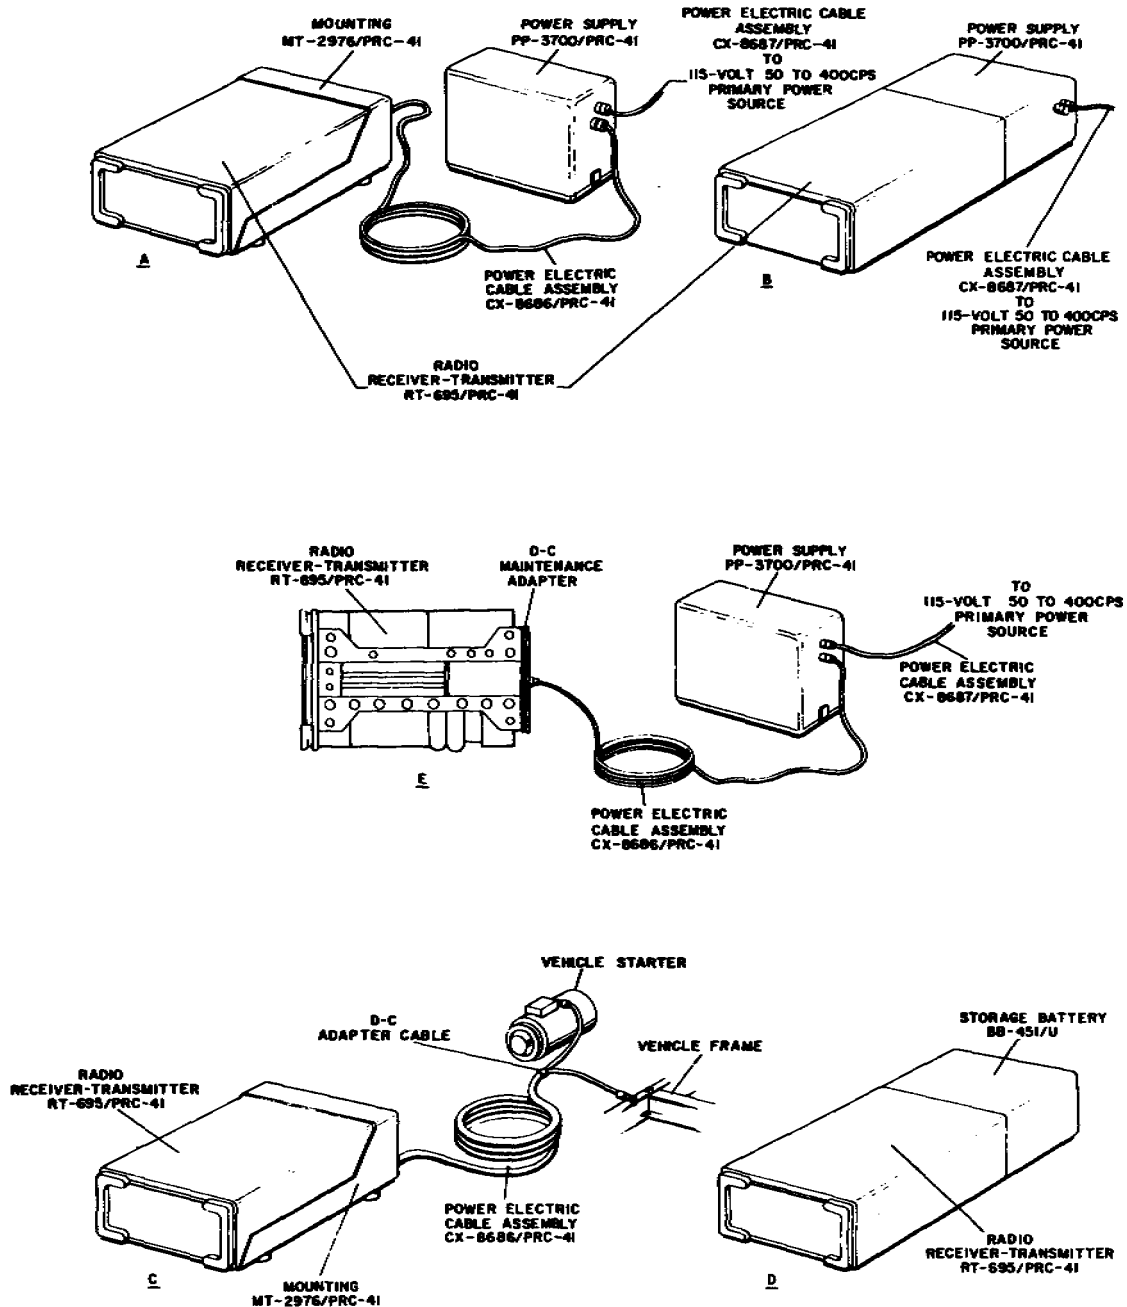
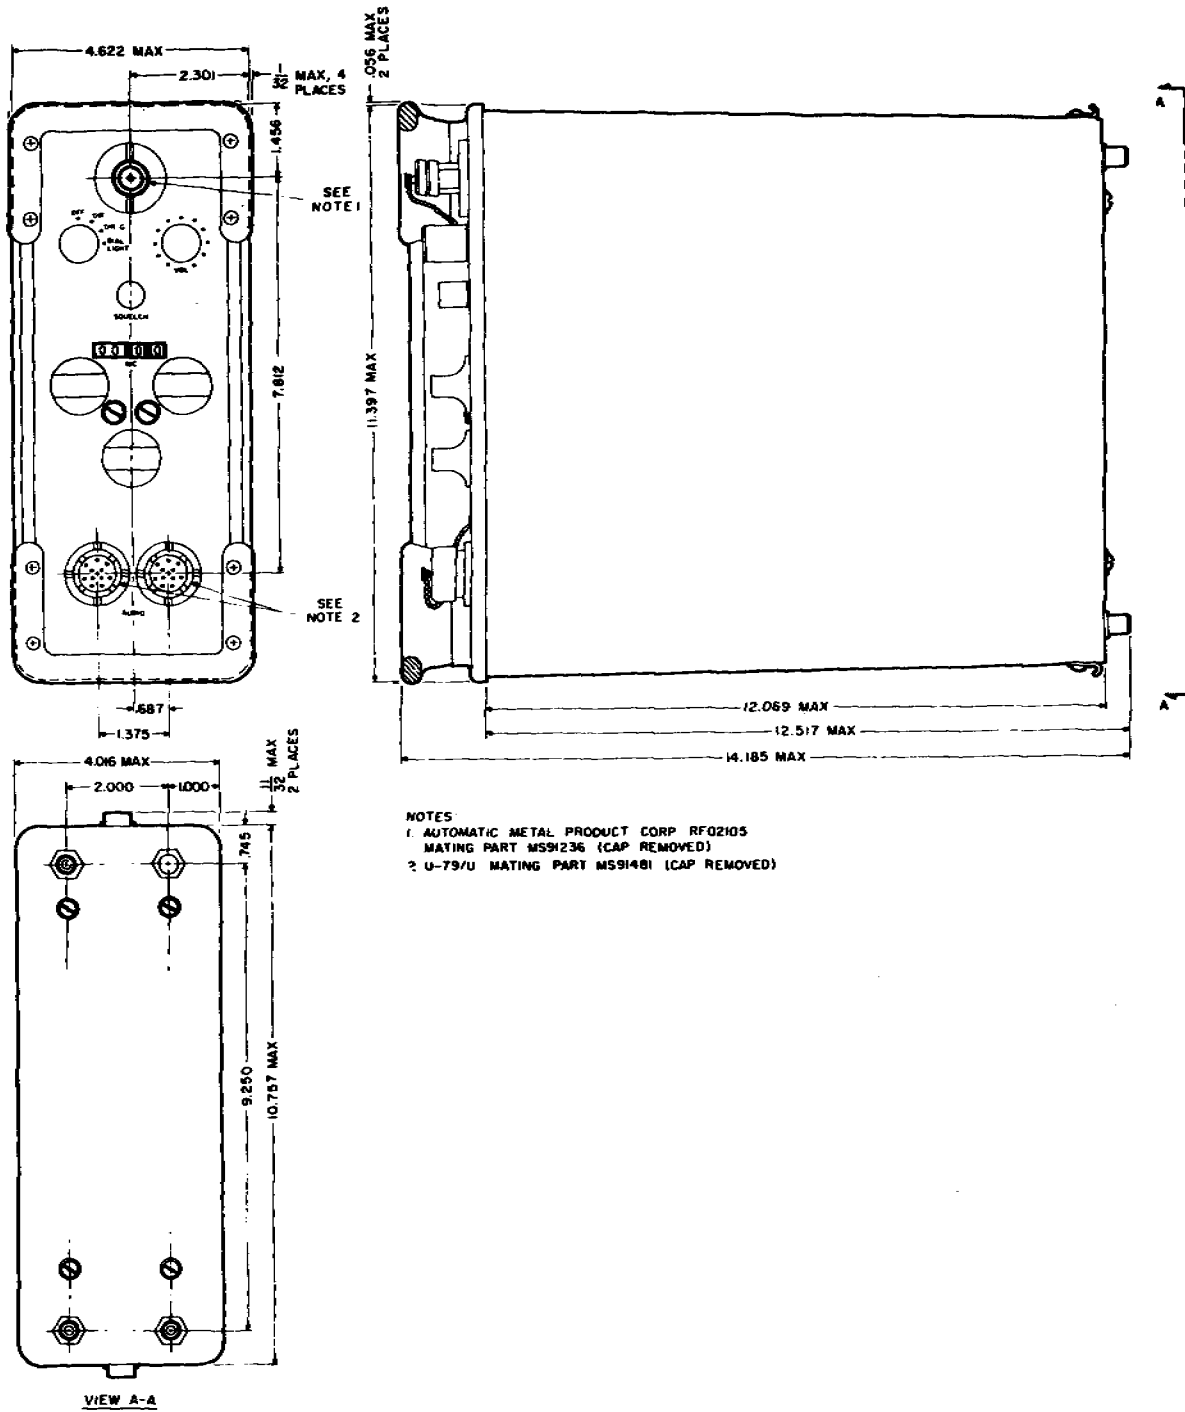
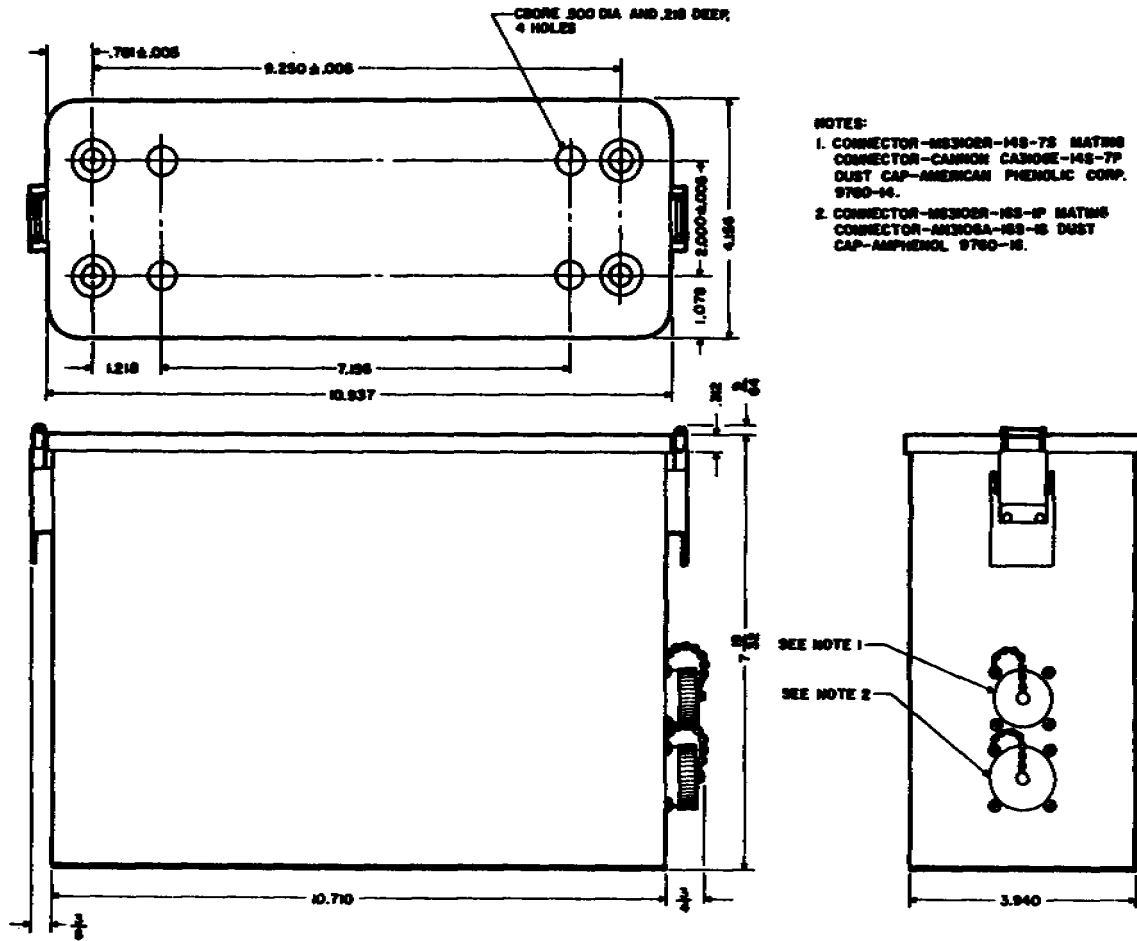

Figure 2-3. Source of Power Configurations of Radio Receiver-Transmitter RT-695/PRC-41
Figure 2-13. Radio Receiver-Transmitter RT-695/PRC-41, Outline and Mounting Dimensions
Figure 2-14. Power Supply PP-3700/PRC-41, Outline and Mounting Dimensions
a. POWER PROVISIONS. - Radio Receiver- RT-695/PRC-41 requires a nominal 26.5-volt d-c primary source. This supply may be provided by use of Power Supply PP-3700/PRC-41, Storage Battery BB-451/U, or by an aircraft or vehicular battery supply. Figure 2-3 illustrates the various configurations which may be used to supply the required d-c primary power to Radio Receiver- RT-695/PRC-41.
Primary Power for Radio Receiver-Transmitter RT-695/PRC-41 may be provided by a separately located power supply PP-3700/PRC-41. Refer to part A of figure 2-3. In this configuration, Power Electric Cable Assembly CX-8686/PRC-41 is used to connect the 26.5-volt d-c output from the PP-3700/PRC-41 to Mounting MT-2976/PRC-41 and to the RT-695/PRC-41, Power Electric Cable Assembly CX-8687/PRC-41 is used to connect the 115-volt a-c primary power to Power Supply by PP-3700/PRC-41. Primary power for Radio
Receiver-Transmitter RT-695/PRC-41 may also be provided by Power Supply PP-3700/PRC-41 attached directly to the RT-695/PRC-41 as shown in part B of figure 2-3. This configuration uses Power Electric Cable Assembly CX-8687/PRC-41 to connect the primary 115-volt a-c supply to Power Supply PP-3700/PRC-41. For aircraft or vehicular operation, Radio Receiver- RT-695/PRC-41 may be mounted on Mounting MT-2976/PRC-41 and connected to the aircraft or vehicular battery supply through Power Electric Cable Assembly CX-8686/PRC-41 and the d-c adapter cable. Refer to part C of figure 2-3. For man-pack operation, Storage Battery BB-451/U is attached directly to the rear of Radio Receiver RT-695/PRC-41 to provide the required d-c primary supply voltage. Refer to part D of figure 2-3. For operation of Radio Receiver- RT-695/PRC-41 with its case removed, the d-c maintenance adapter must be secured to the rear of the RT-695/PRC-41 and Power Electric Cable Assembly CX-8686/PRC-41 must be connected between the d-c maintenance adapter and Power Supply PP-3700/PRC-41. The 115-volt a-c primary supply is then connected through Power Electric Cable Assembly CX-8687/PRC-41 to Power Supply PP-3700/PRC-41. Refer to part E of figure 2-3.
The assembly layout of Radio Set AN/PRC-41 is dependent on the type of installation required. Radio Set AN/PRC-41 may be assembled for man- fixed station, or vehicular operation. Refer to figures 2-4 through 2-7. For outline and mounting dimensions, refer to figures 2-13 through 2-17.
(1) MOUNTING AND POWER CONSIDERATIONS. - When Radio Receiver-Transmitter RT-695/ PRC-41 is used in a vehicular installation, it is mounted on Mounting MT-2976/PRC-41 and supplied power through Power Electric Cable Assembly CX-8686/PRC-41 and the dc adapter cable from the vehicle battery supply. Refer to part C of figure 2-3. Refer to figures 2-13 and 2-16 for outline and mounting dimensions when fastening the shockmounts of Mounting MT-2976/PRC-41 to the vehicle. When the RT-695/PRC-41 is used in an aircraft, it is mounted in the same way as for a vehicular installation. Power for an aircraft installation is supplied by Power Supply PP-3700/PRC-41 which may be located at some remote location in the aircraft. Power Supply PP-3700// PRC-41 clamps to Mounting MT-2977/PRC-41. Mounting MT-2977/PRC-41 must be secured to the aircraft frame. Refer to figures 2-14 and 2-17 for outline and mounting dimensions. Power Electric Cable Assembly CX-8687/PRC-41 connects Power Supply PP-3700/PRC-41 to the 115-volt, 50- to 400- primary aircraft supply. Power Electric Cable Assembly CX-8686/PRC-41 is used to connect Power Supply PP-3700/PRC-41 to Mounting MT-2976/ PRC-41 to supply power to the RT-695/PRC-41.